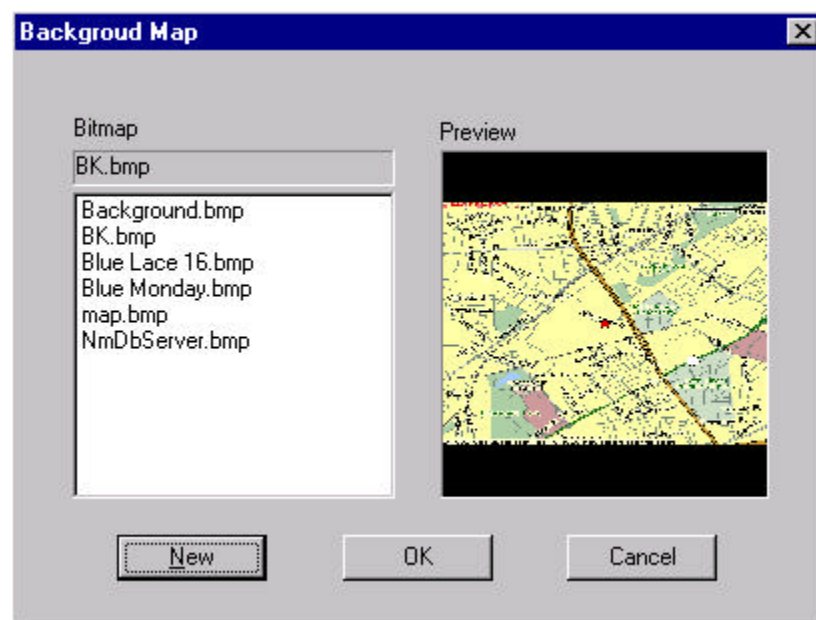

Figure 4-6: Background Map Window
2. Click the **Draw Background Map** button and click anywhere on the **Status View** window. The **Background Map** window opens, as shown in Figure 4-6.